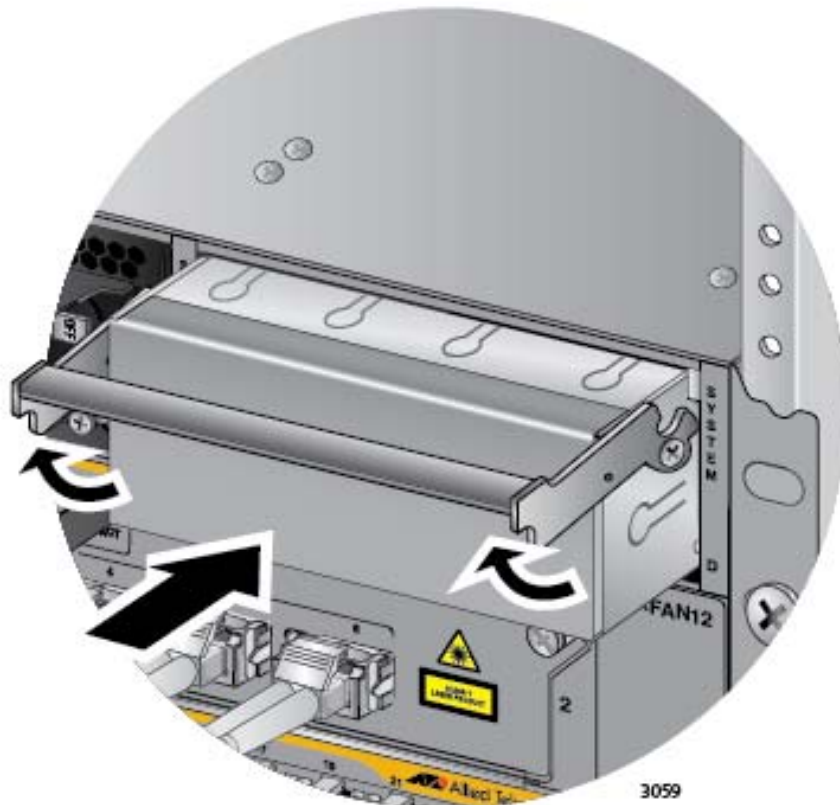

Figure 147. Installing a Blank Power Supply Slot Cover
13. Place the locking handle on the slot cover in the up position and slide the cover into the empty power supply slot. Refer to Figure 147 on page 218.